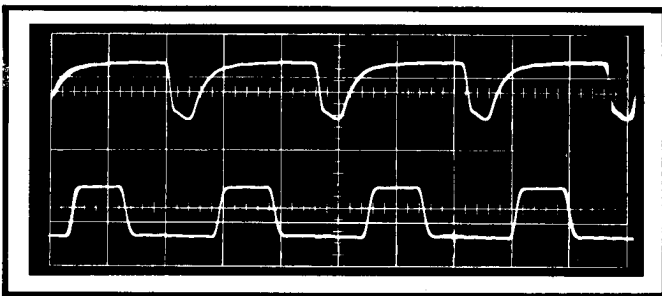

Figure 4-3 Delay Check Waveform
g. **Delay Check.** Requirement: time interval between trigger signal and pulse output continuously variable from less than  $0.1 \mu\text{s}$  to more than 10 ms. Replace the Type L plug-in with the Type 1A1 dual trace plug-in. Connect the signal from the tap-off to channel 2 and set vertical sensitivity to  $0.2 \text{ V}/\text{cm}$ . Connect the Model 132A trigger signal to channel 1 and set vertical sensitivity to  $5 \text{ V}/\text{cm}$ . The two input cables to the test oscilloscope should be of equal length. Set the plug-in to display alternate channels. Connect the signal from the channel 1 trigger output on the plug-in to the trigger input on the test oscilloscope. Set the oscilloscope to accept a positive external trigger. Increase sweep speed to  $0.1 \mu\text{s}/\text{cm}$ . Return the Model 132A to the initial set-up condition. The scope presentation should be similar to Figure 4-3.